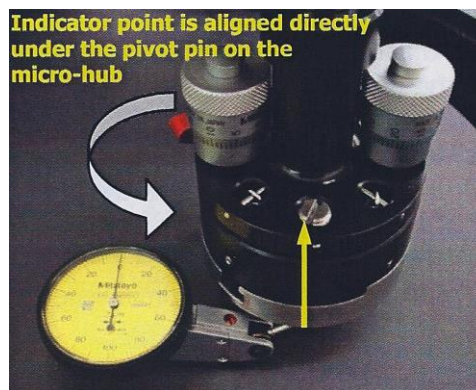

Figure 10: Indicator point aligned under the pivot pin (yellow arrow) and marking zero.
3. Rotate the indicator bezel so the zero is rear-facing (Figure 10).
5. Activate sample rotation and stop when the pivot pin is over the contact point of the indicator tip (the pivot pin is indicated by the yellow arrow in Figure 10).
11. Activate full rotation until the fixed pivot pin is located over the tip of the dial indicator (Figure 10)